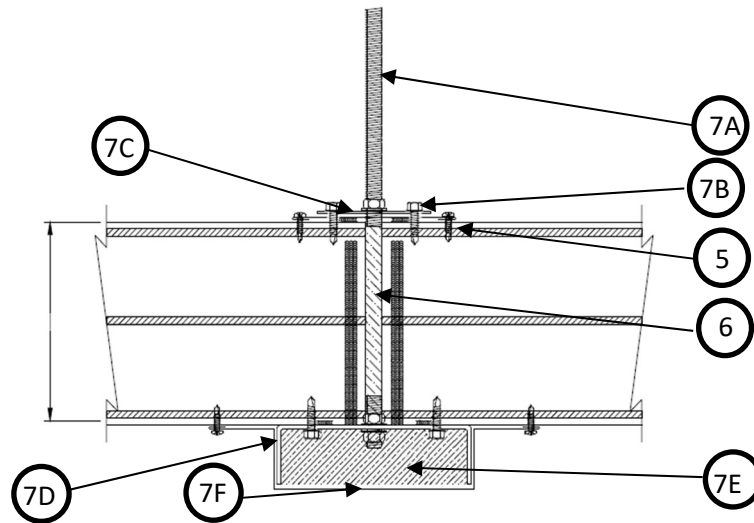
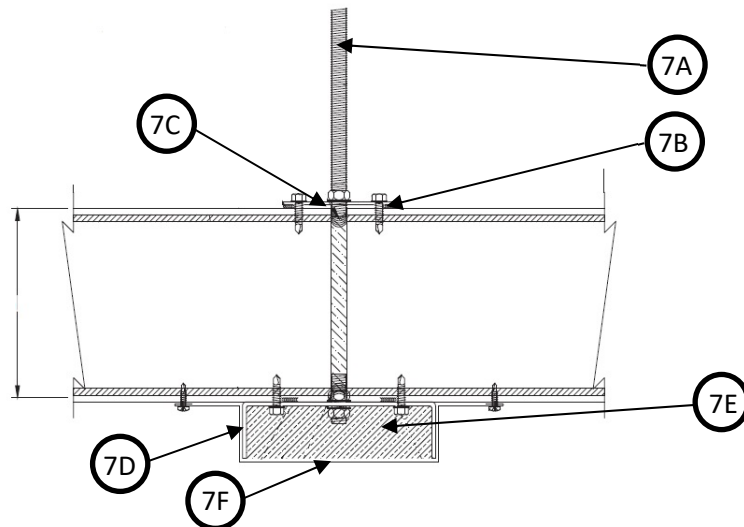
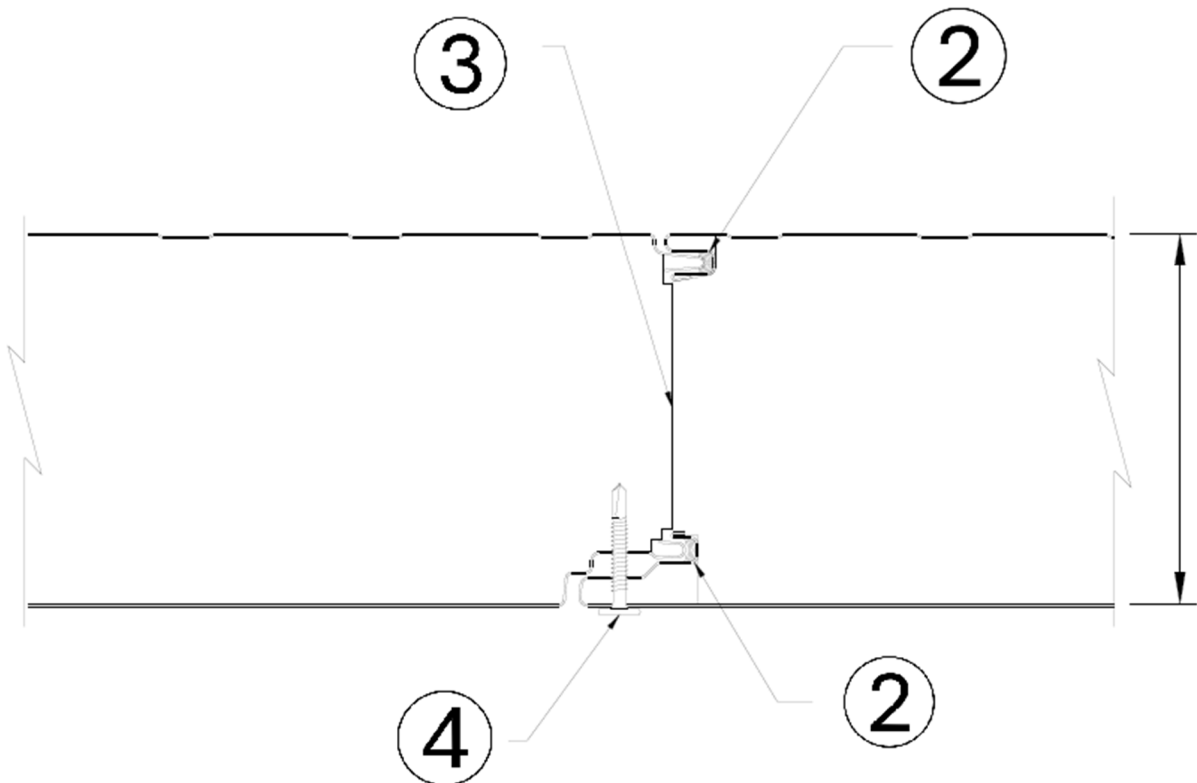

Figure 1: Butt Joint W/Hanger
Figure 2: Mid-Panel W/Hanger
Figure 4: Interlocking Panel Joint
Install nominal 6 in. thick x 42 in. wide Kingspan K-ROC FX Panels w/min. 24/26 GA (ext/int) steel skins, horizontally using the mounting attachments (Item 7). The max. span between butt joints is 12 ft. Refer to **Figures 1 and 3** for butt joints, and **Figure 4** for interlocking joints.
3. INTUMESCENT: Refer to **Figure 4**. Use Promat Promaseal®-LW intumescent tape with the widths described below.
A. **THREADED ROD** – Install 3/8 in. diameter threaded rod and secure to structural member (not shown), spaced a max. of 42 in. oc. Secure threaded rod to mounting attachments using 3/8 in. nuts. The max. hole diameter for the rod installation shall be 1/8 in. greater than the rod diameter. Threaded rod shall be installed between the panel butt joint as shown in **Figure 1**. Alternatively, the rod can be installed through the middle of the panel, as shown in **Figure 2**. For installation at mid-span locations or at interlocking joints, apply 3M Fire Barrier CP 25WB+ sealant at the penetration points at the top and bottom of the panels. Maintain a max. of 5 ft. oc ceiling channel spacing.